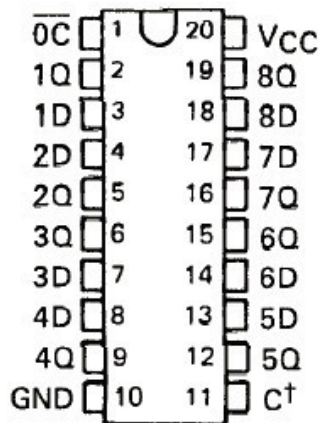

Figure 3
- 3) http://www.pyroelectro.com/projects/pyro_propeller_clock_pov/74ls373_latch.html (73LS373, Figure 3)